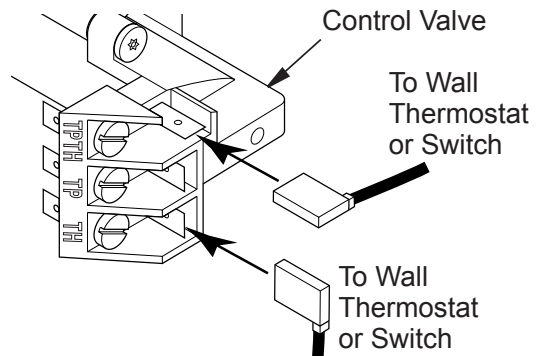

Figure 21 - Connecting Wire Terminals
2. Connect one terminal of 25 ft. wire to the "TH" terminal on the control valve. Connect the other terminal to the "THTP" terminal on the control valve. See Figure 21, page 15.
2. Connect one terminal of 25 ft. wire to the "TH" terminal on the control valve. Connect other terminal to the "THTP" terminal on control valve. See Figure 21, page 14.